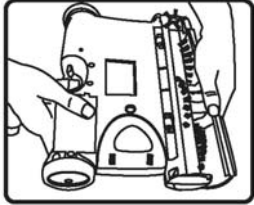

Fig. 10
3. Remove the brush cover. (Fig. 10) (Refer to page 5 for detailed instructions.)
1. Remove the brush cover. (Fig. 10)
11. Replace the brush cover (Fig. 10)